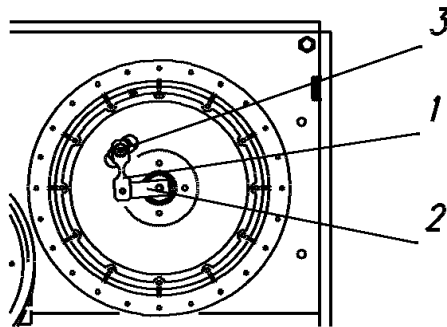

Fig. 84 Driving wheel can be turned
The driving wheel on the drive unit can easily be turned by dismantling the breaking part and the discs at the shaft end (pos. 1 and 2, Fig. 84). Then the driving wheel can be removed and the bush at the wheel nave can be moved to the other side (pos. 3, Fig. 84). The wheel can now be re-mounted. Do remember to lubricate the shaft with a little copper grease.